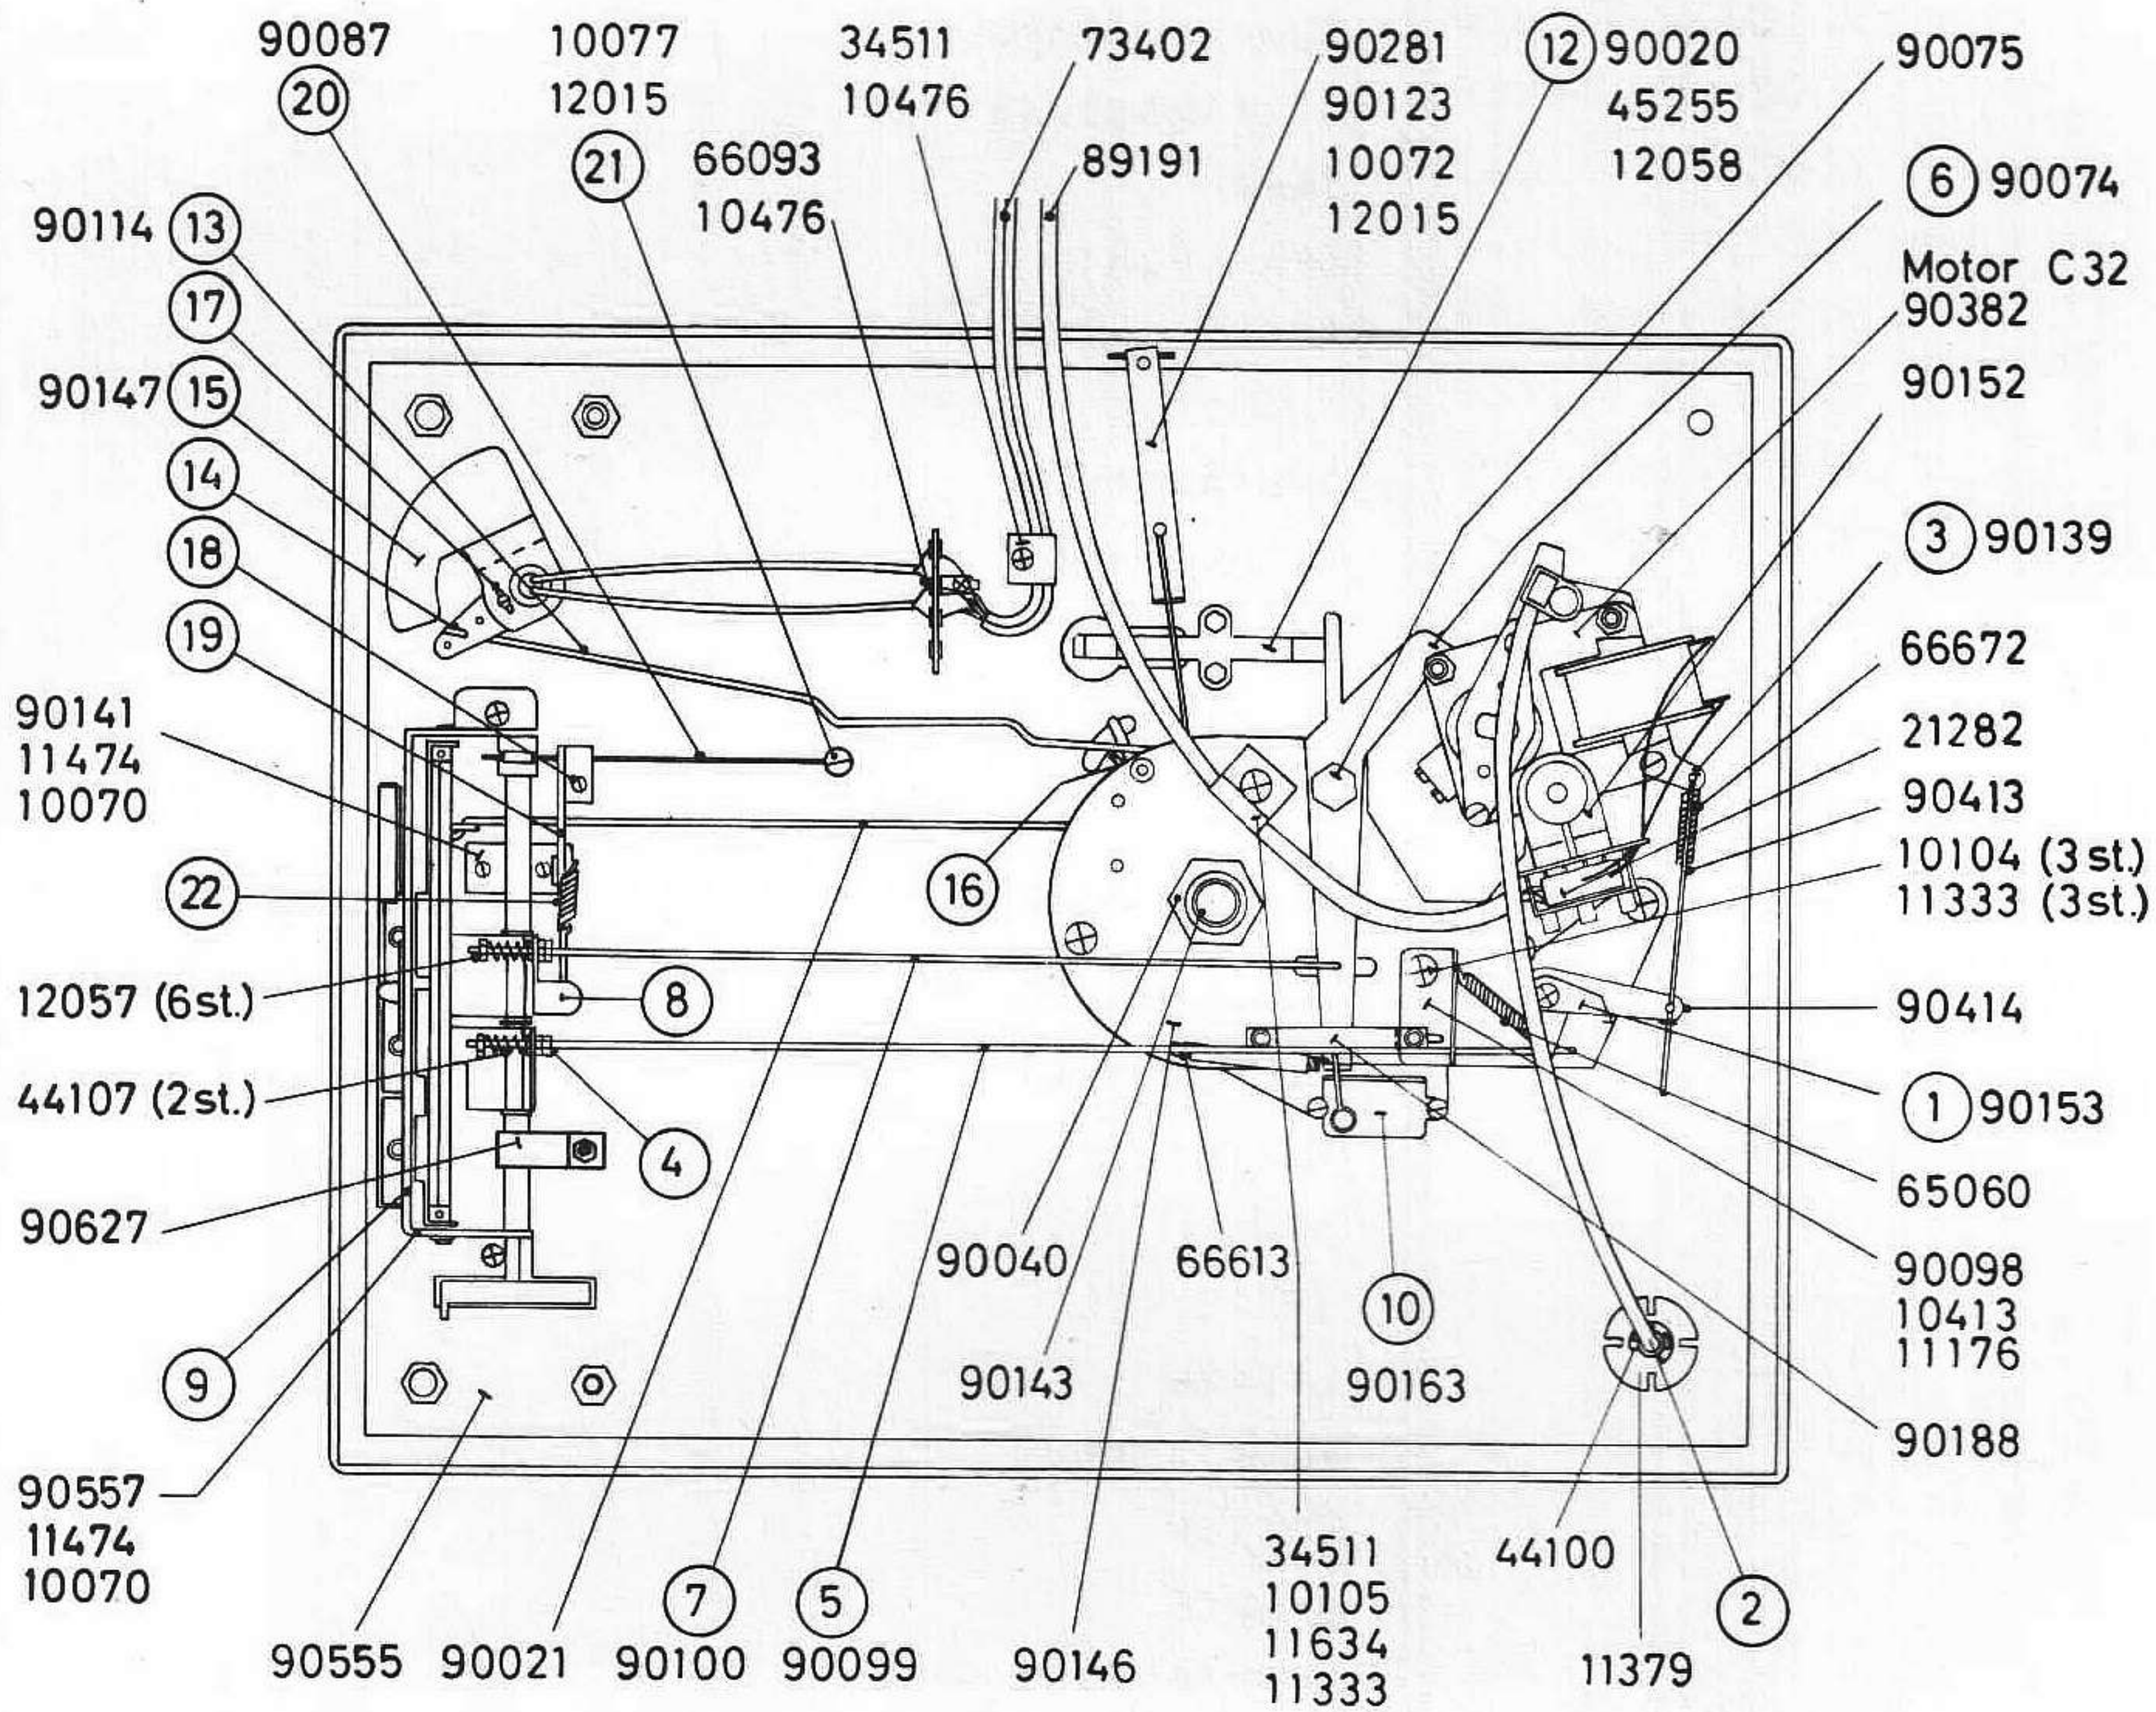

Fig. 1
TRYCK NED KNAPPEN FÖR 33 1/3 V/MIN OCH JUSTERA ANSLAGSPLÅTEN (1) FIG. 1, SÅ ATT EN KRAFT AV 75 - 80 POND ERHÅLLES, DÅ EN MÄTKLOCKA ANSÄTTES ENL FIG (2). REGLERA MOTORN HASTIGHET MED HASTIGHETSREGLAGET (2) ENL FIG (1) EFTER APPARATENS STROBOSKOPSKIVA, SÅ ATT HASTIGHETEN BLIR SÅ EXAKT SOM MÖJLIGT, DVS STROBOSKOPBILDEN STÅR STILLA.
OM FJÄDERKRAFTEN MÅSTE ÄNDRAS AVSEVÄRT, KAN DET VARA LÄMPLIGT ATT VRIDA FJÄDERFÄSTET (3) FIG 1 OCH HÄRIGENOM ERHÅLLA GROVJUSTERING.
ÄNDRING AV BROMSKRAFTEN MOT SKIVTALLRIKEN (11) FIG 2 GÖRES MED MUTTRARNA FÖR BROMSPLÅT (12) FIG 1. SPELAREN KÖRES PÅ 45 V/MIN. BROMSKRAFTEN ANPASSAS SÅ ATT SKIVTALLRIKEN Roterar CA 3/4 VARV SEDAN STOPPKNAPPEN NEDTRYCKTS. EFTER INSTÄLLNINGEN LÅSES MUTTRARNA MED LÅSLACK.